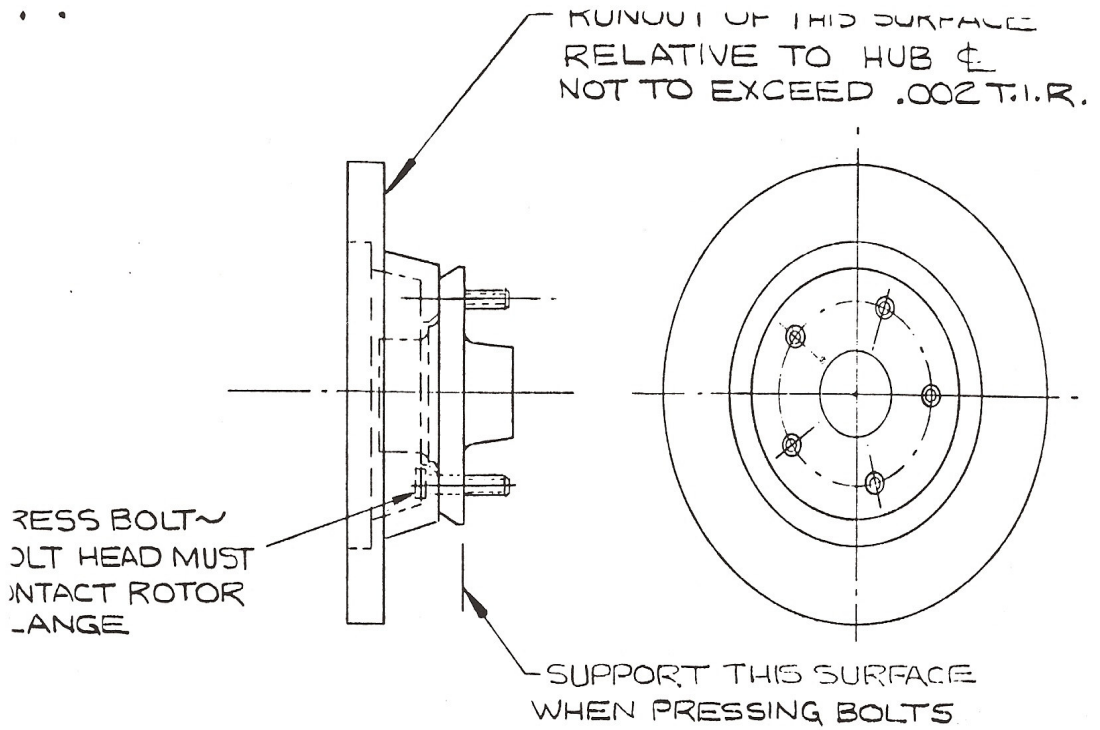

FIGURE 3
5. Press D0ZX-1107-A wheel hub bolts into rotor and hub as shown in Figure 3